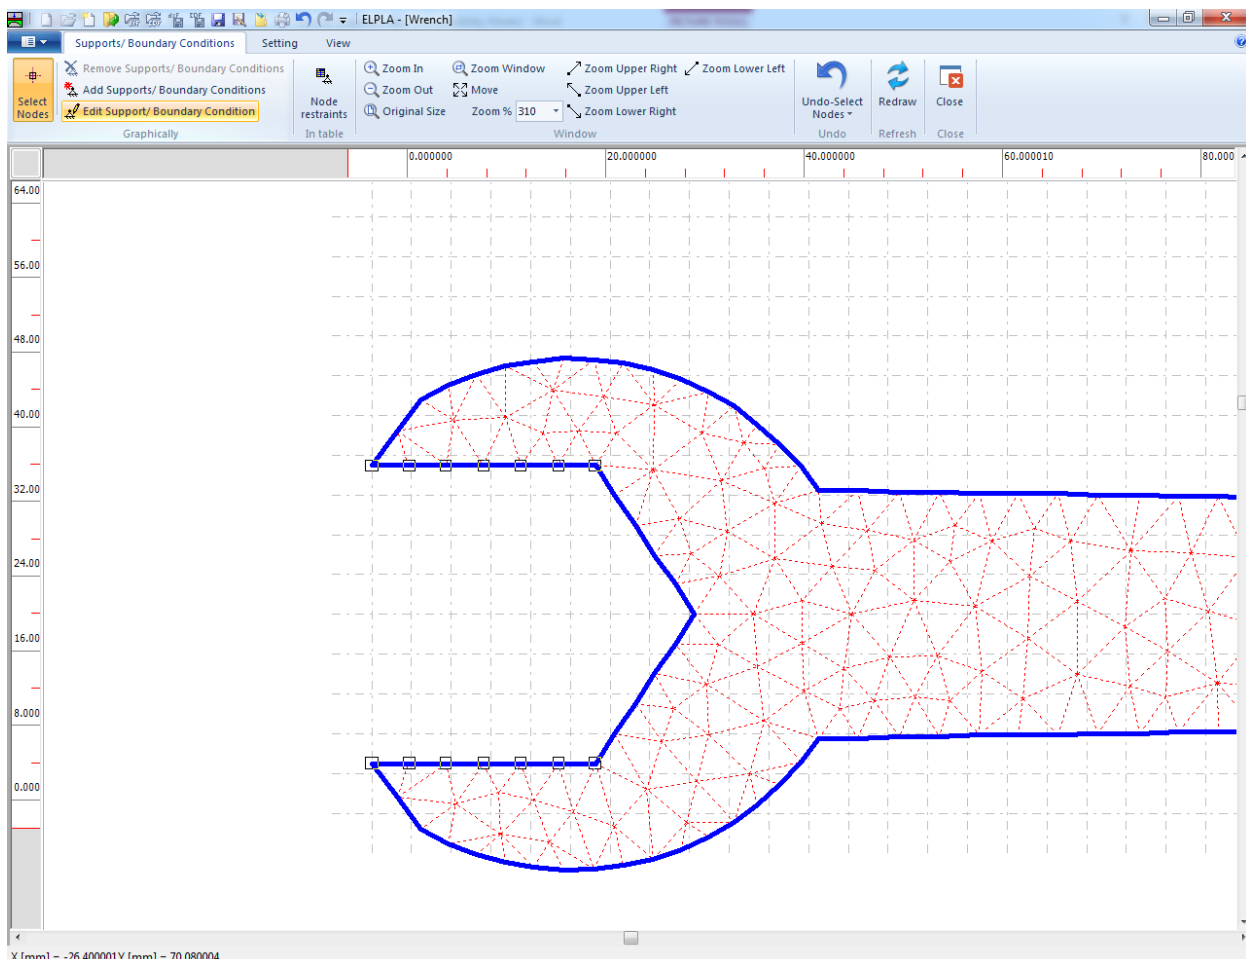
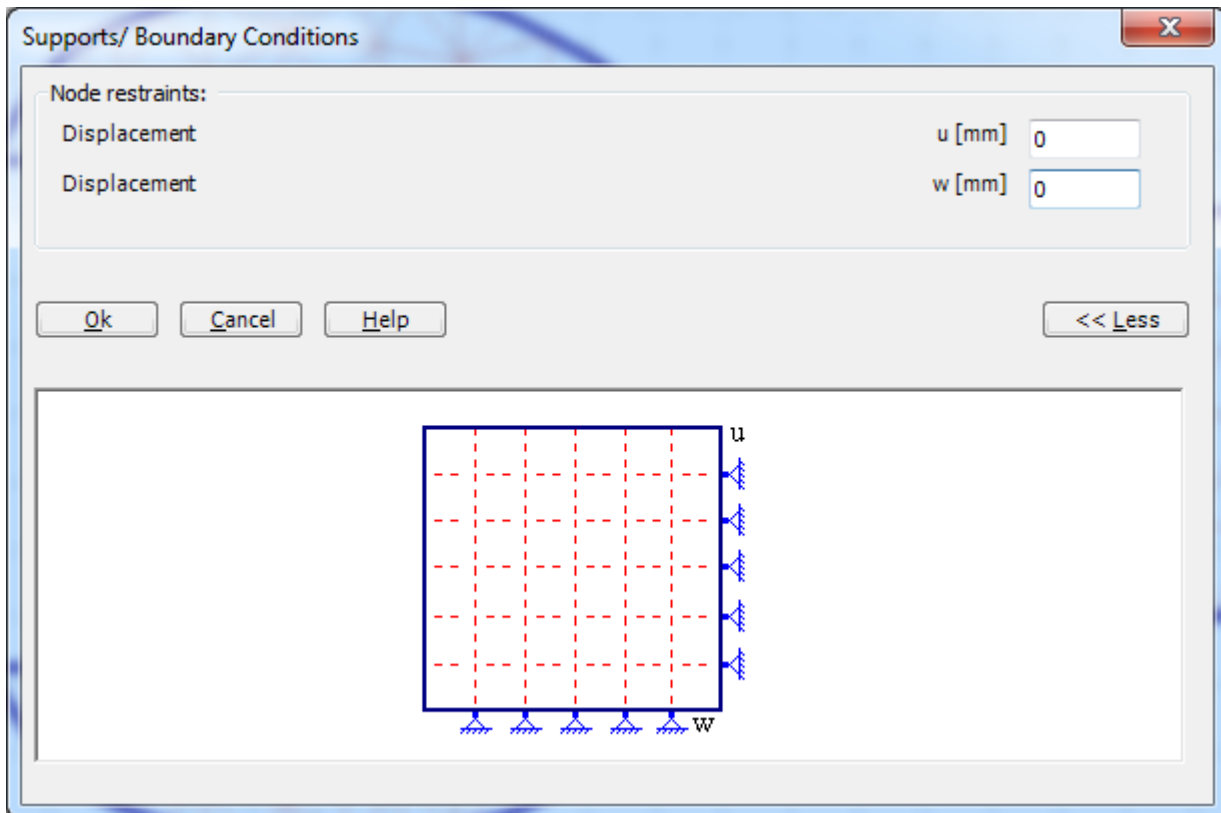

Figure 5.20 Selection of nodes that have supports
Figure 5.21 "Supports/ Boundary Conditions" dialog box
- Click the left mouse button on nodes that have supports as shown in Figure 5.20
- After selecting nodes of supports, choose "Add Supports/ Boundary Conditions" command from "Graphically" menu in Figure 5.20. "Supports/ Boundary conditions" dialog box in Figure 5.21 appears